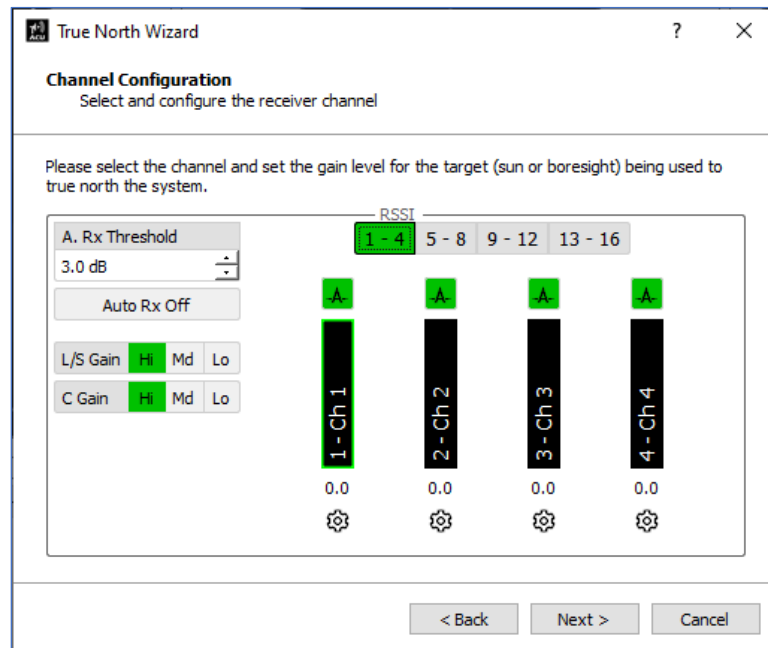

Figure 59: True North Wizard, Channel Configuration
4. Set the tracking channel (LHCP) signal strength (Hi), and check the attached receiver settings and tracking frequency, in the True North Wizard, Channel Configuration, as shown in Figure 59. Select the Next button to continue.